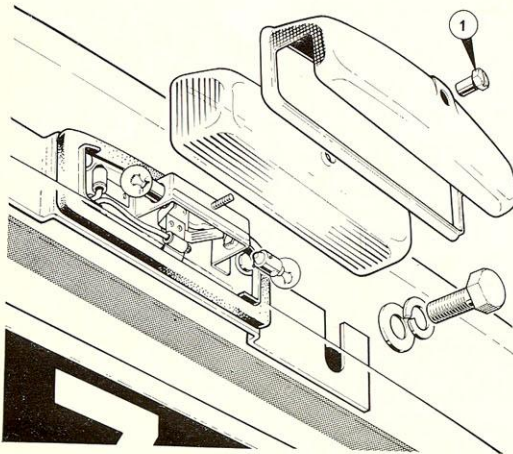

Figure 39 Rear number-plate illumination lamp
**Rear number-plate illumination lamp Figure 39**